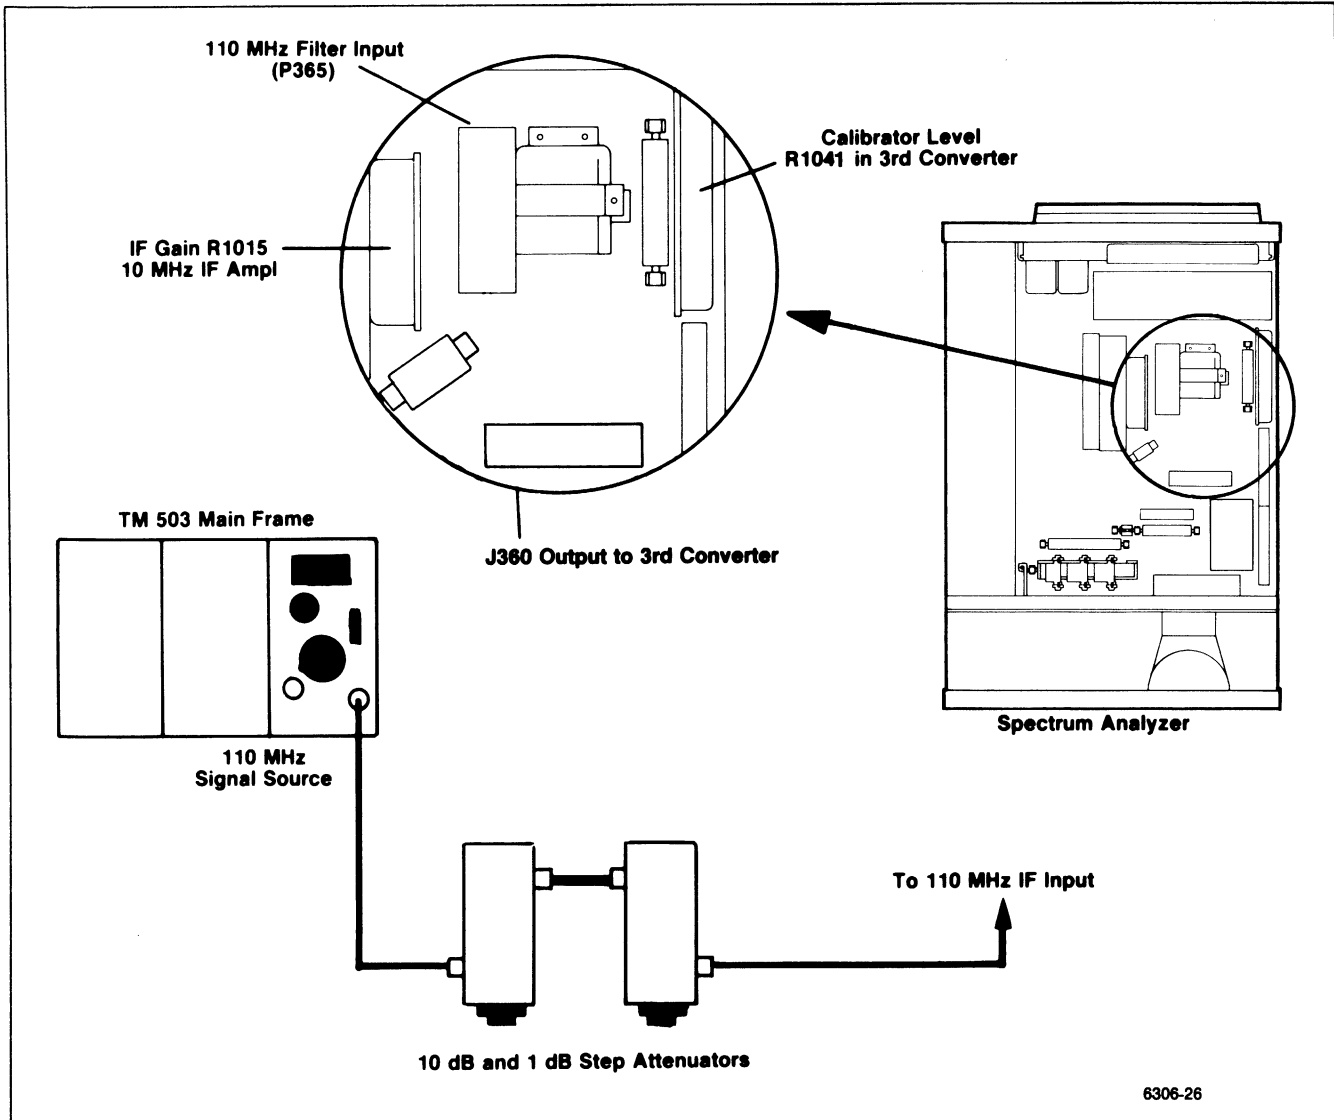

Figure 5-19. IF gain test setup, and adjustment and connector locations.
f. Adjust Cal Level R1041, in the 3rd converter (Figure 5-19) for no displacement between the CAL OUT signal and the reference (VIEW B and SAVE A displays).
a. Test equipment setup is shown in Figure 5-19. Set the RESOLUTION BANDWIDTH to 100 kHz, REF LEVEL to  $-20$  dBm, and apply a  $-21.5$  dBm, 110 MHz signal, through step attenuators, to the input (J365) of the 110 MHz filter.
d. Set the step attenuators for 21 dB attenuation and apply the 110 MHz signal to the input (J321) of the 110 MHz IF amplifier (Figure 5-19).